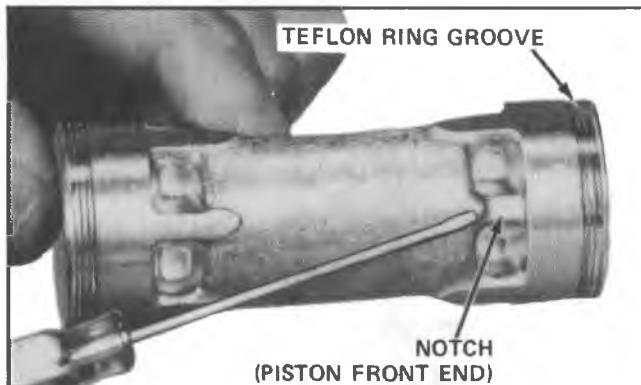

Fig. 32--Notch Identifying Front End of A-6 Piston
8. Place piston in No. 1 compartment of Parts Tray J-9402, with notch in casting web at front end of piston (Fig. 32) into the dimpled groove of Parts Tray compartment.
7. Lubricate cavity of a ZERO shoe disc with 525 viscosity refrigerant oil and place shoe disc over ball in **front end** of piston (Fig. 37). **Front end of piston has an identifying notch in casting web** (Fig. 32).